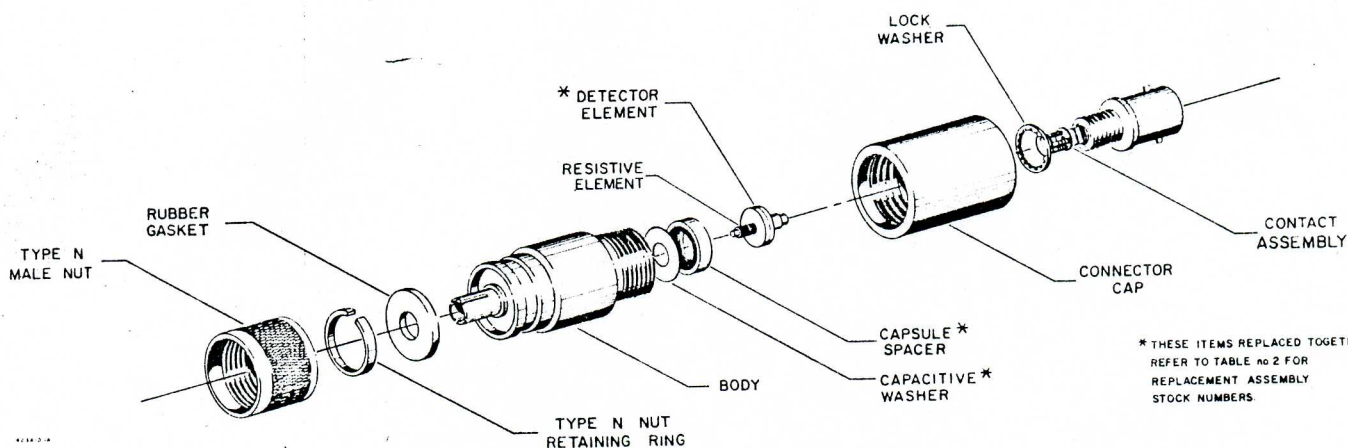

Figure 3. Model 423A Assembly
The special detector element (see Figure 3) contained in the Detector can be damaged in handling, removal, or installation if certain precautions are not taken. The handling precautions which follow should be read before performance of any operation with the detector element when it is out of either the housing or the detector element shipping container.
26. Parts mentioned in the following procedure are identified in Figure 3.
29. PROCEDURE. Parts mentioned in the following procedure are identified in Figures 3 and 4.